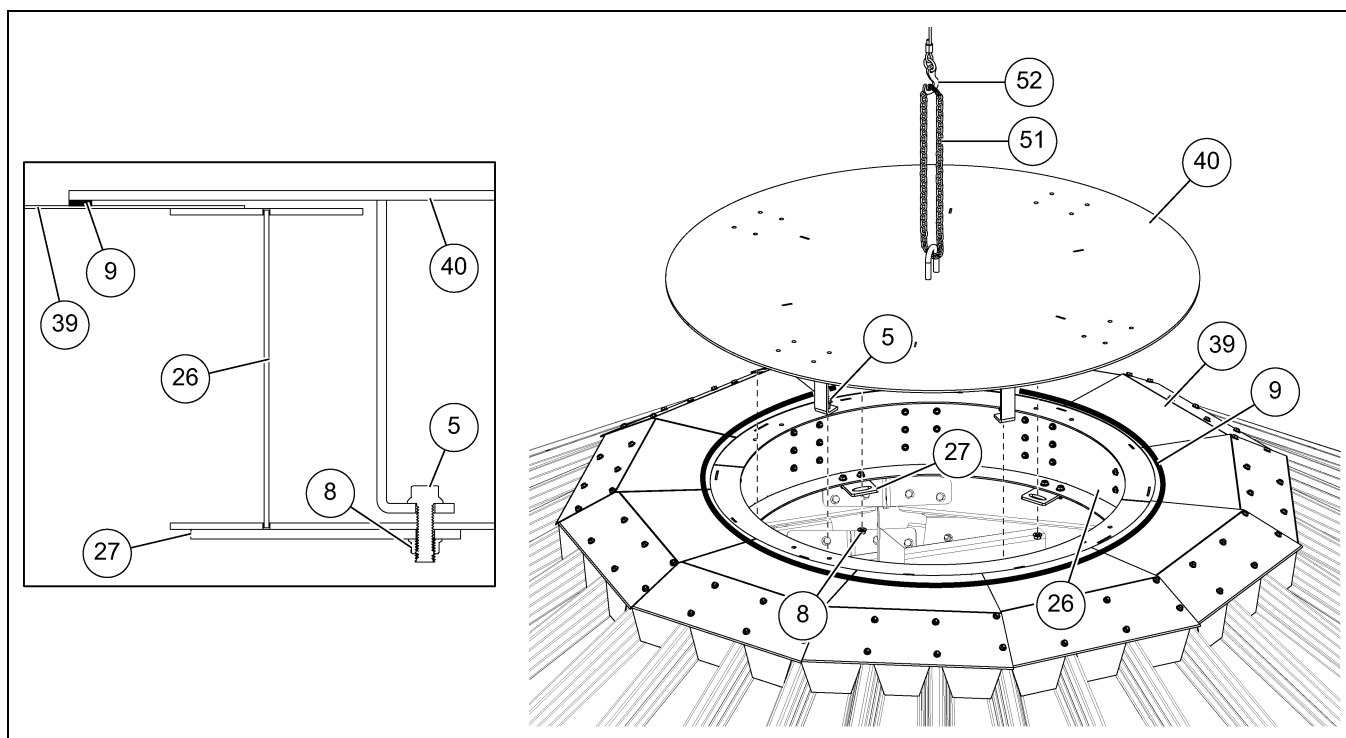

Figure 4Z Lifting and Installing the Center Cap Plate
1. Place a continuous strip of caulk (9) on the mating surface of the cap plate with the roof flashing (39).
2. Attach the appropriate lifting chain (51) to the hook in the center cap plate (40).
3. Attach the appropriate lifting device (52) to the lifting chain (51).
4. Use the qualified personnel to hoist the center cap plate (40) into place.
5. Align the six holes in the angle plates welded to the center cap plate (40) with the holes in the mounting bracket (27) assembled to the center collar (26) and fasten them together 7/16" x 2" flange bolts (5) and 7/16" flange nuts (8). *(See Figure 4Z.)*